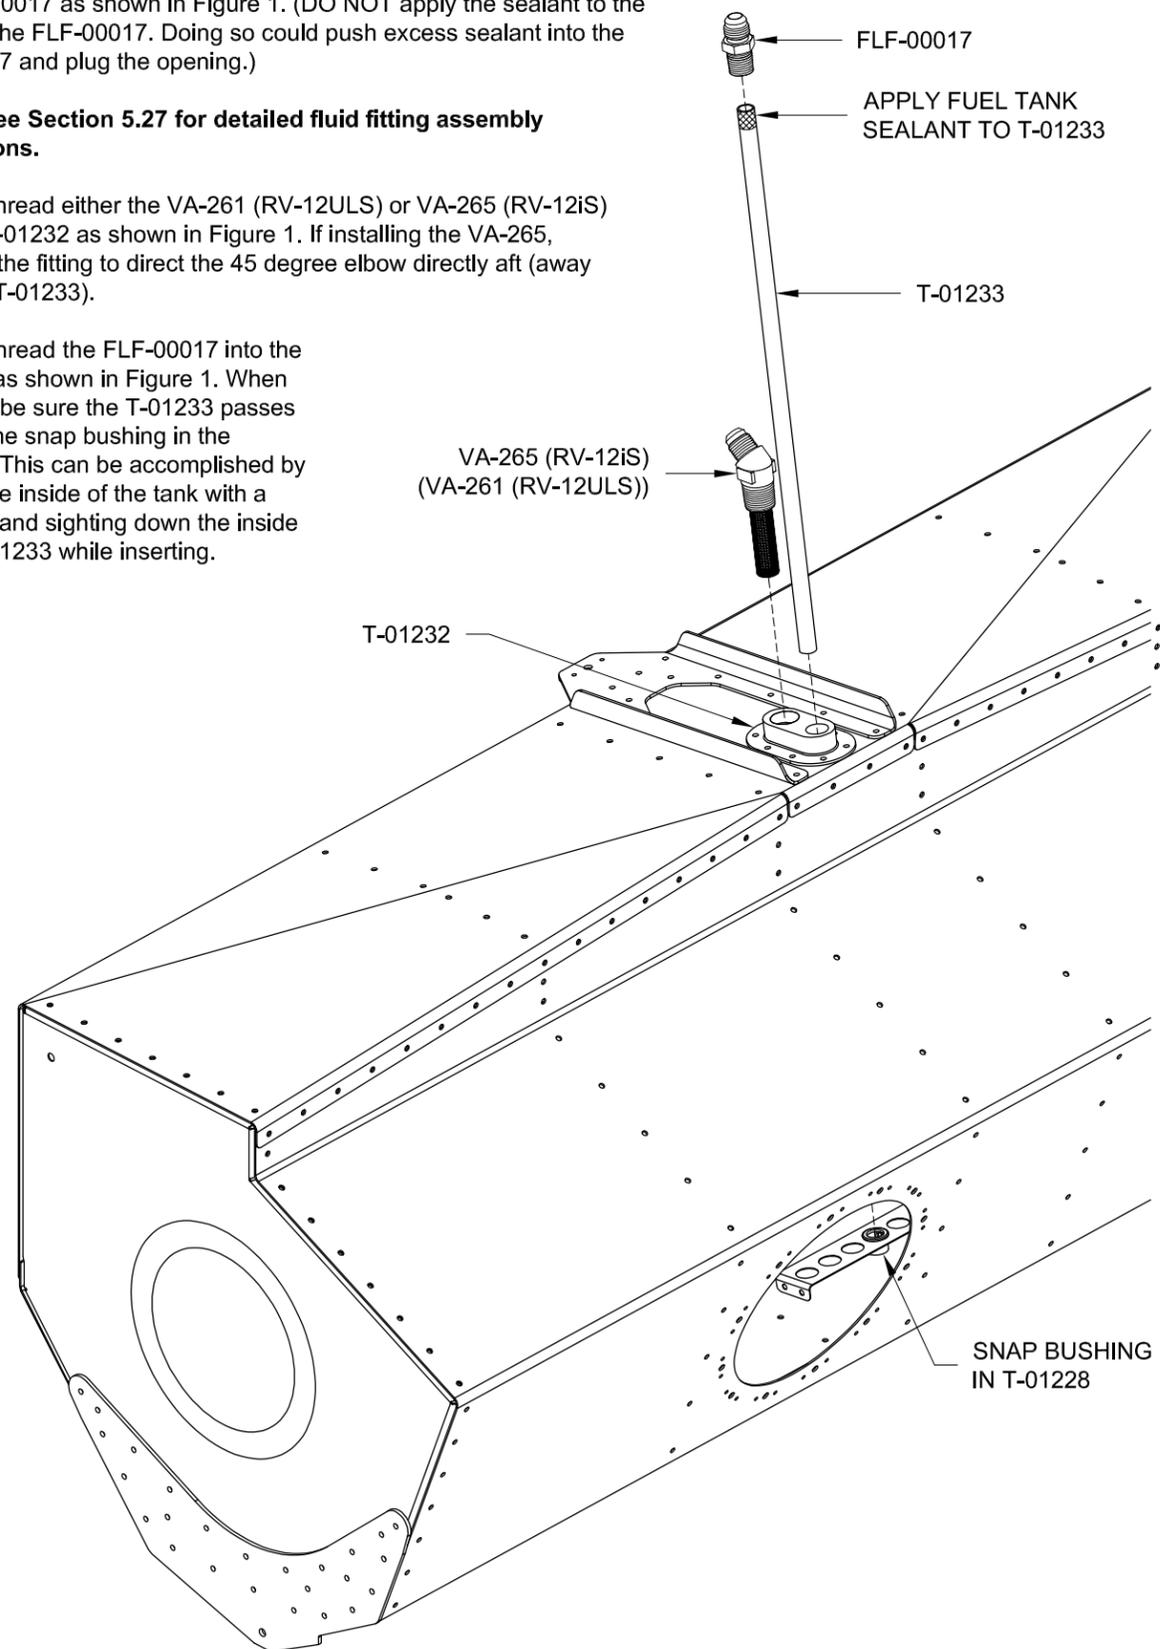

FIGURE 1: SUPPLY/RETURN FITTING INSTALLATION
Step 3: Thread either the VA-261 (RV-12ULS) or VA-265 (RV-12iS) into the T-01232 as shown in Figure 1. If installing the VA-265, thread in the fitting to direct the 45 degree elbow directly aft (away from the T-01233).
Step 4: Thread the FLF-00017 into the T-01232 as shown in Figure 1. When inserting, be sure the T-01233 passes through the snap bushing in the T-01228. This can be accomplished by lighting the inside of the tank with a flashlight and sighting down the inside of the T-01233 while inserting.